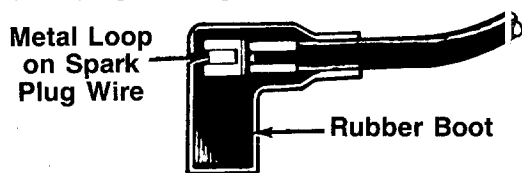

FIGURE 16.
1. Attach spark plug wire to spark plug. If the unit is equipped with a rubber boot over the end of the spark plug wire, make certain the metal loop on the end of the spark plug wire (inside the rubber boot) is fastened securely over the metal tip on the spark plug. See figure 16.